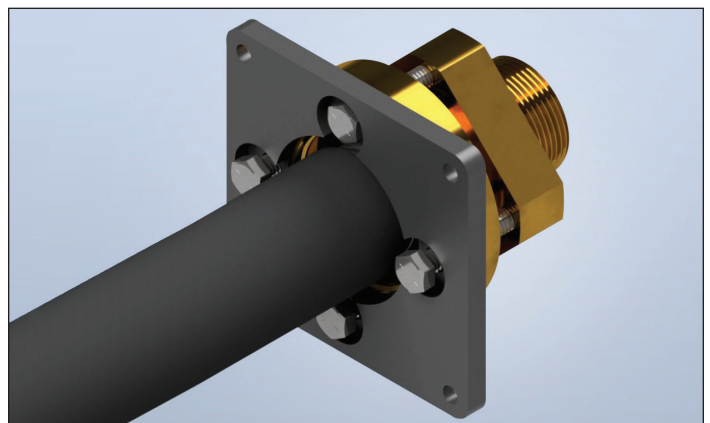

Figure: 1-6
8. Slide the Back Flange and Steel Rectangular Flange forward to trap the Split Rings. While applying forward pressure to the Back Flange and Rectangular Flange, slide the Front Pipe Flange onto the Back Flange ledge. Insert and align Hex Bolts (Figure 1-6).